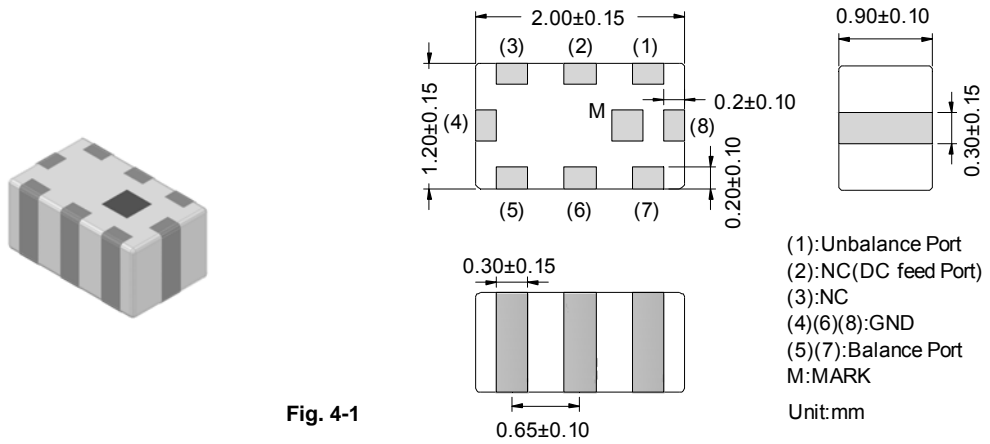

Fig. 4-1
1) Dimensions and terminal configuration: See Fig. 4-1